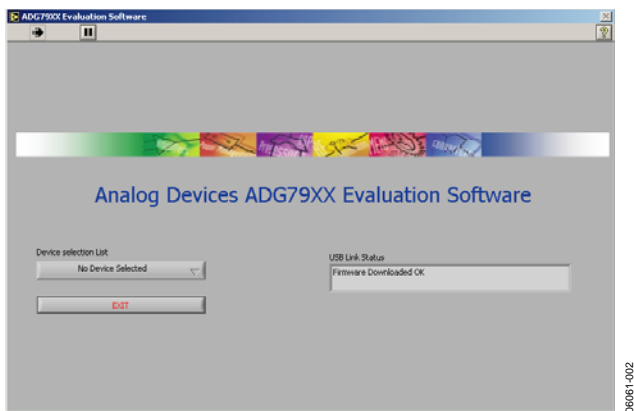

Figure 2. Main Screen
2. Next, the main screen is opened (see Figure 2).